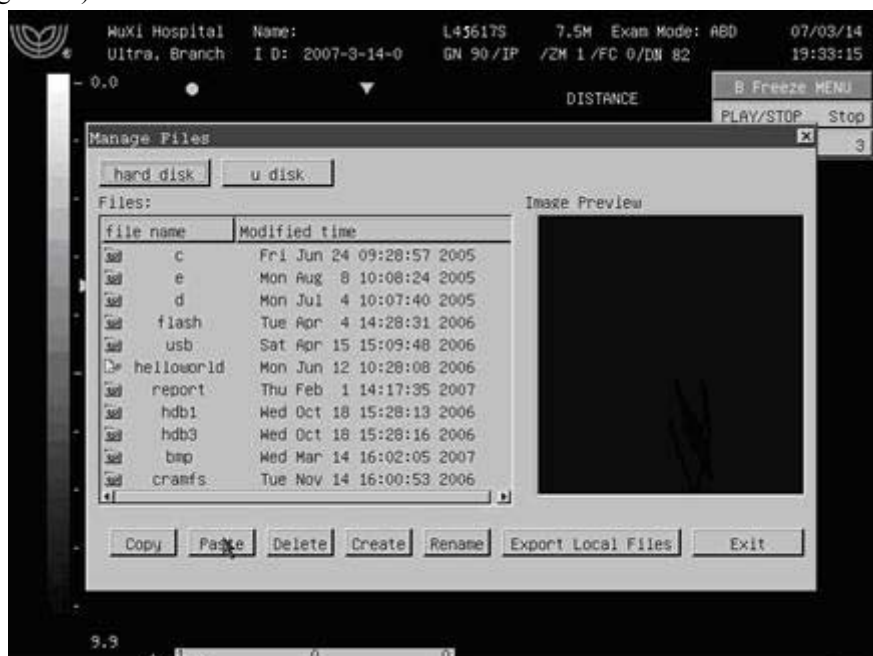

Fig. 12-14 Paste operations
10. Move the cursor to “Paste” button on the dialog box-“Manage Files” to finish file copy operation (shown as Fig. 12-14).